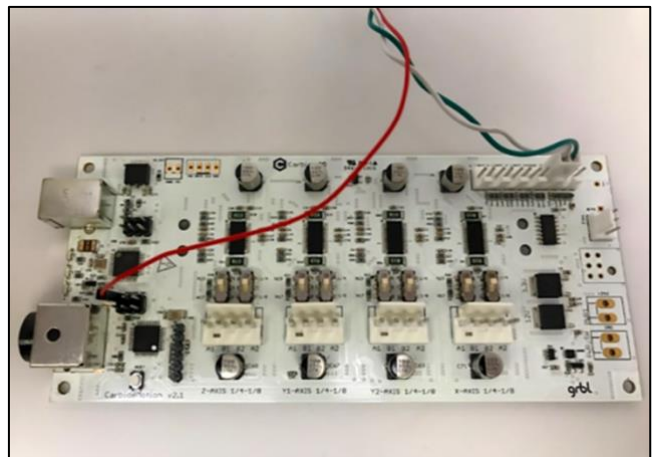

Figure 5
3. Once both wires are connected, your board should look like **Fig. 5**.